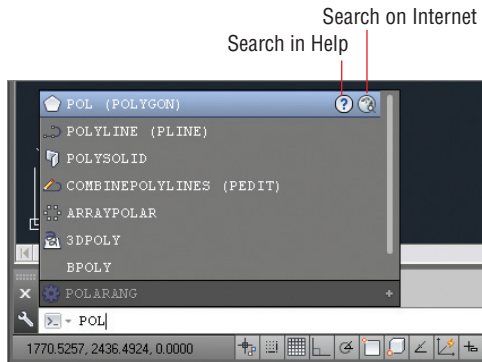

FIGURE 1.14 Command line's AutoComplete feature
11. Type POL, and observe how the command line's AutoComplete feature highlights commands in alphabetical order as you type (see Figure 1.14). Use the arrow keys to move up or down through the list, and press Enter when you find the command for which you are looking, or click its name in the list, instead of typing the entire word. (Note: Some commands and system variables can be quite lengthy.) In AutoCAD 2014, there are buttons on each command in the AutoComplete list to look up additional information in the Help system and/or on the Internet with a single click. Hovering the mouse over any one of the commands in the list brings up a drawing illustrating the use of the command.